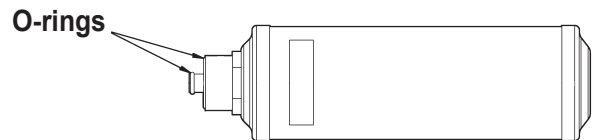

Figure 16
6. Look at the new filter—verify both o-rings are lubricated and correctly located in the grooves. See Figure 16. Thread the new filter into place. Press **START / YES**.